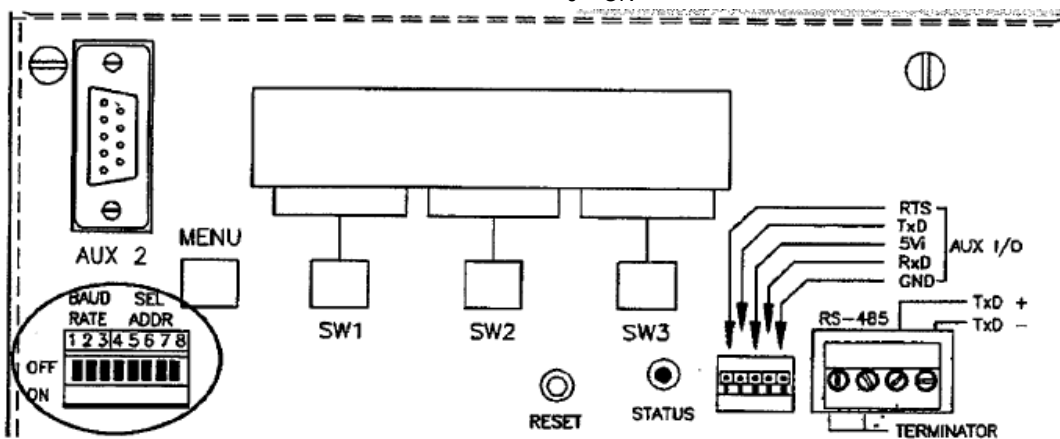

Figure 7-1. Serial Communication Parameter Selection Switch.
The DXt-40 is equipped with a variety of standard and optional serial output formats that are selected using a series of DIP switches (Figure 7-1). DIP switch positions 1, 2, and 3 (Table 7-1) allow four format choices; continuous output, terminal/computer interface, and Modbus RTU. Allen-Bradley Remote I/O is available as an option, but requires different documentation (see page 7-8). All types of DXt interfacing will be discussed in the following paragraphs. Positions 4-7 designate transmitter address for applications requiring more than one DXt unit (Table 7-2). Switch position 8 is unused and should be left in the '0' (ON) position.